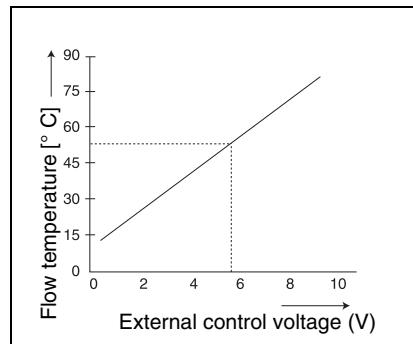

fig. 3 0 – 10 V diagram
With the 0-10 V DC signal (fig. 2, pos. 5), the flow temperature or the power of the boiler can be controlled (fig. 3).